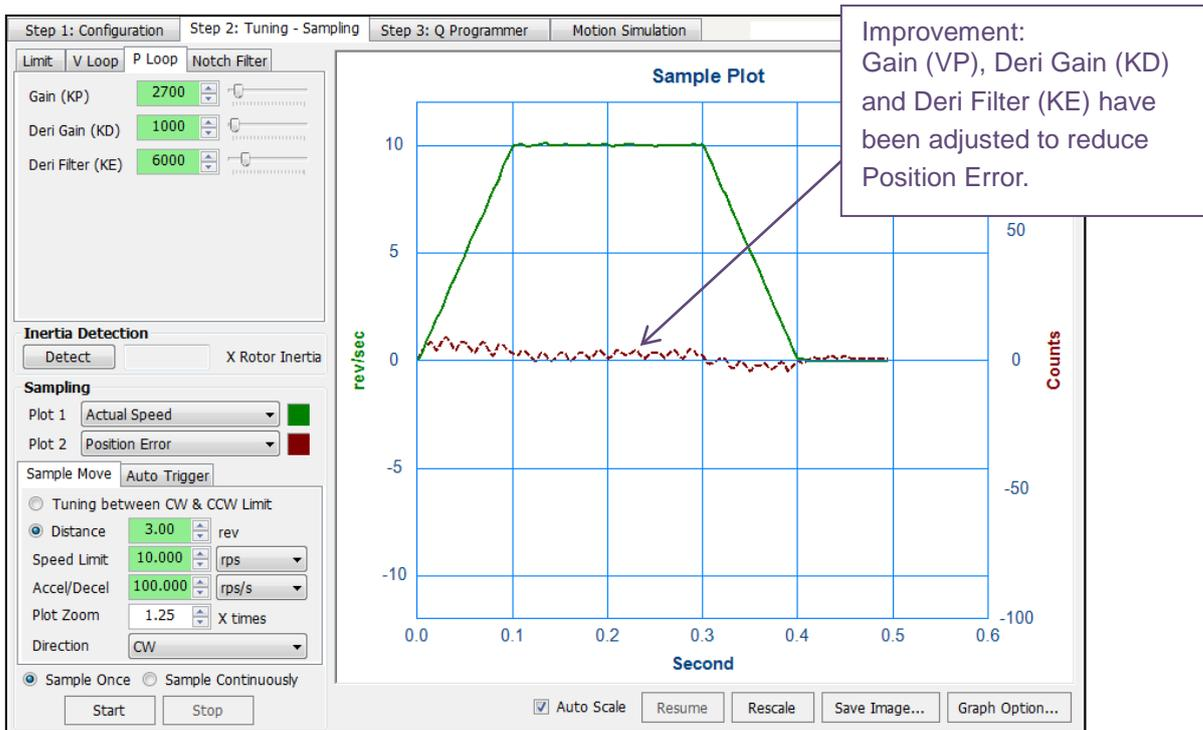

Figure 6.3.5a: Position error has been minimized by adjusting the P Loop tuning
Add in Derivative Gain (KD) and adjust KP and KE (see **Fig. 6.3.5a**)